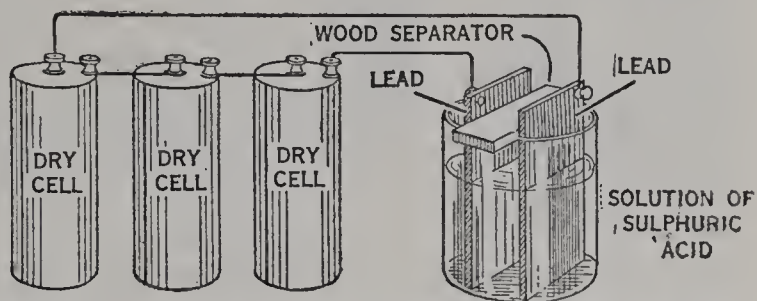

Fig. 281. Charging a homemade storage battery.
(b) Connect the dry cells in series (see Figure 281) and connect them to the lead plates. What happens to the lead plates? Which turns red? Why? This is the charging process. Keep this up for 5 minutes.
7. Examine Fig. 281, noting the connecting wires from central to side posts of the cells. What would happen if you connected the center post of a cell directly to the side post of the same cell?